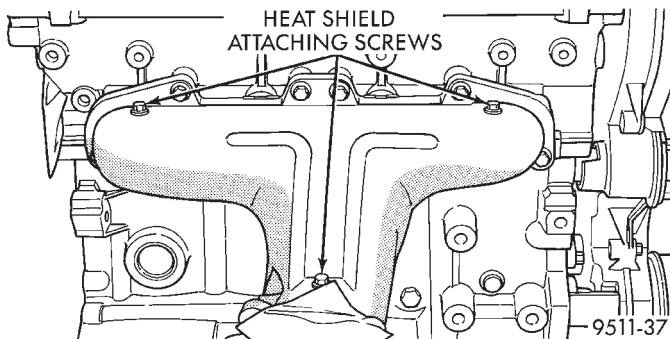

Fig. 17 Exhaust Manifold Heat Shield—2.4L Engine
(1) Remove exhaust pipe from manifold. It may be necessary to remove the entire exhaust system. Refer to procedure outlined in this section.
(2) Remove exhaust manifold heat shield (Fig. 17).